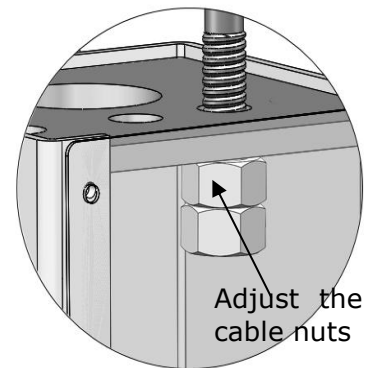

Fig. 55
1. Adjustment of sync cable (See Fig. 55)